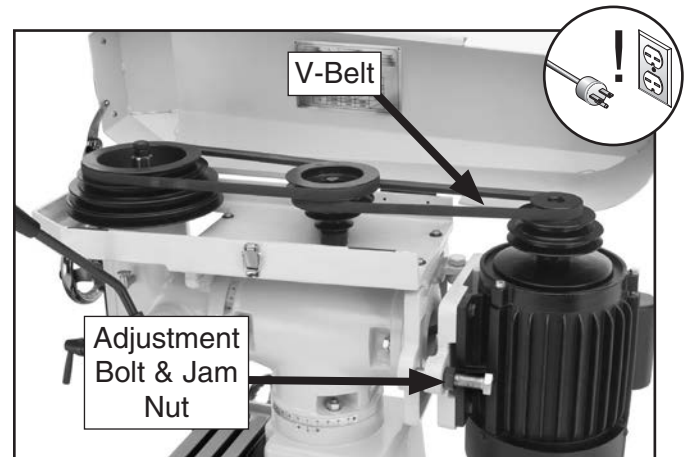

Figure 48. V-belt tension adjustment bolt.
2. Open the V-belt cover, then loosen the adjustment bolt jam nut near the motor (see **Figure 48**).
- Loosen the adjustment bolt jam nut near the motor (see **Figure 48**) and push motor toward machine to loosen V-belts.